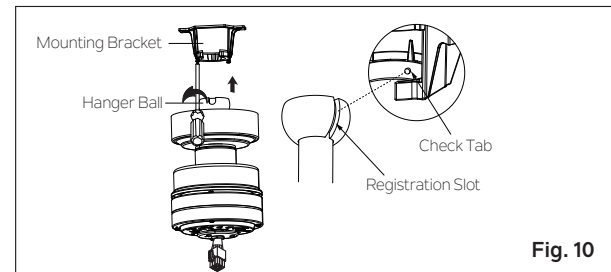

Fig. 10
Step 6. Lift the motor body into position and place the hanger ball into the mounting bracket. Rotate the entire assembly until the "Check Tab" has dropped into the "Registration Slot" and seats firmly. (Fig. 10)